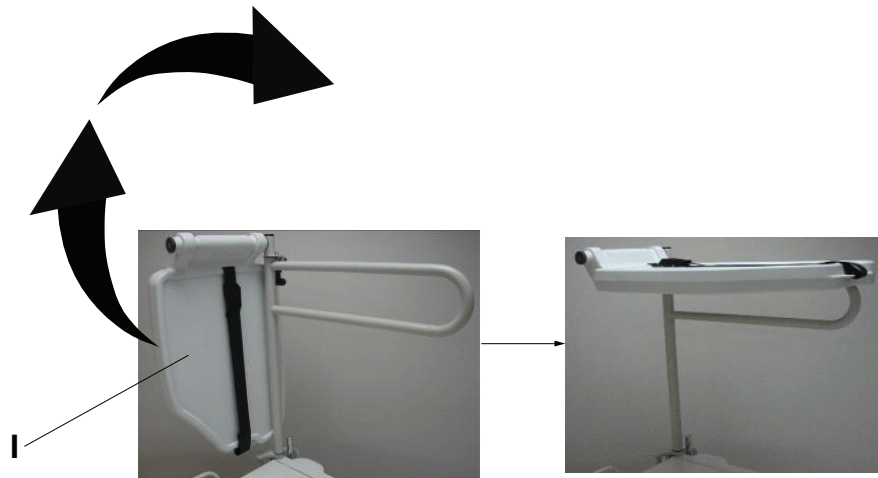

Figure 123 – Flipping up the monitor tray
3. Grasp the bottom of the monitor tray and flip it up onto the tray support pole (I) (Figure 123).